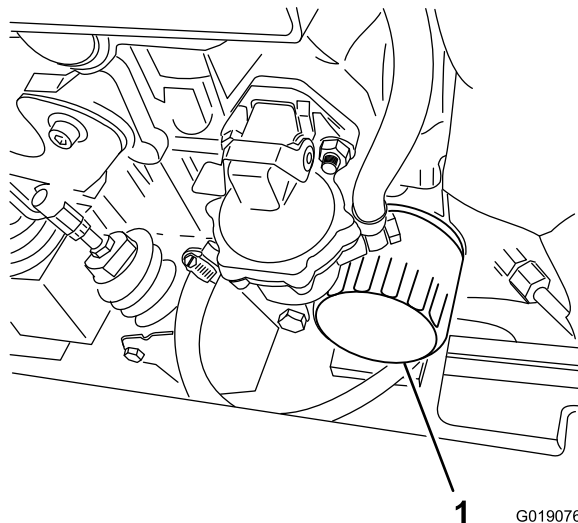

Figure 58
1. Place a shallow pan or rag under the filter to catch oil (Figure 58).
2. Rotate the oil filter counterclockwise and remove the old filter (Figure 58).
5. Install the replacement oil filter to the filter adapter. Turn the oil filter clockwise until the rubber gasket contacts the filter adapter, then tighten the filter an additional 1/2 turn (Figure 58).